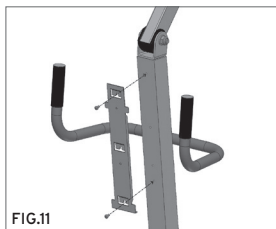

FIG.11
2. Attach the control module support hook to the column with the supplied screws and screw in the corresponding holes. (Fig.11)
5. Connect the actuator connector to the central socket of the control unit and the remote control to the right socket. (Fig.10). The electric kit is correctly mounted and the stand-up lift is ready to use. (Fig.11)